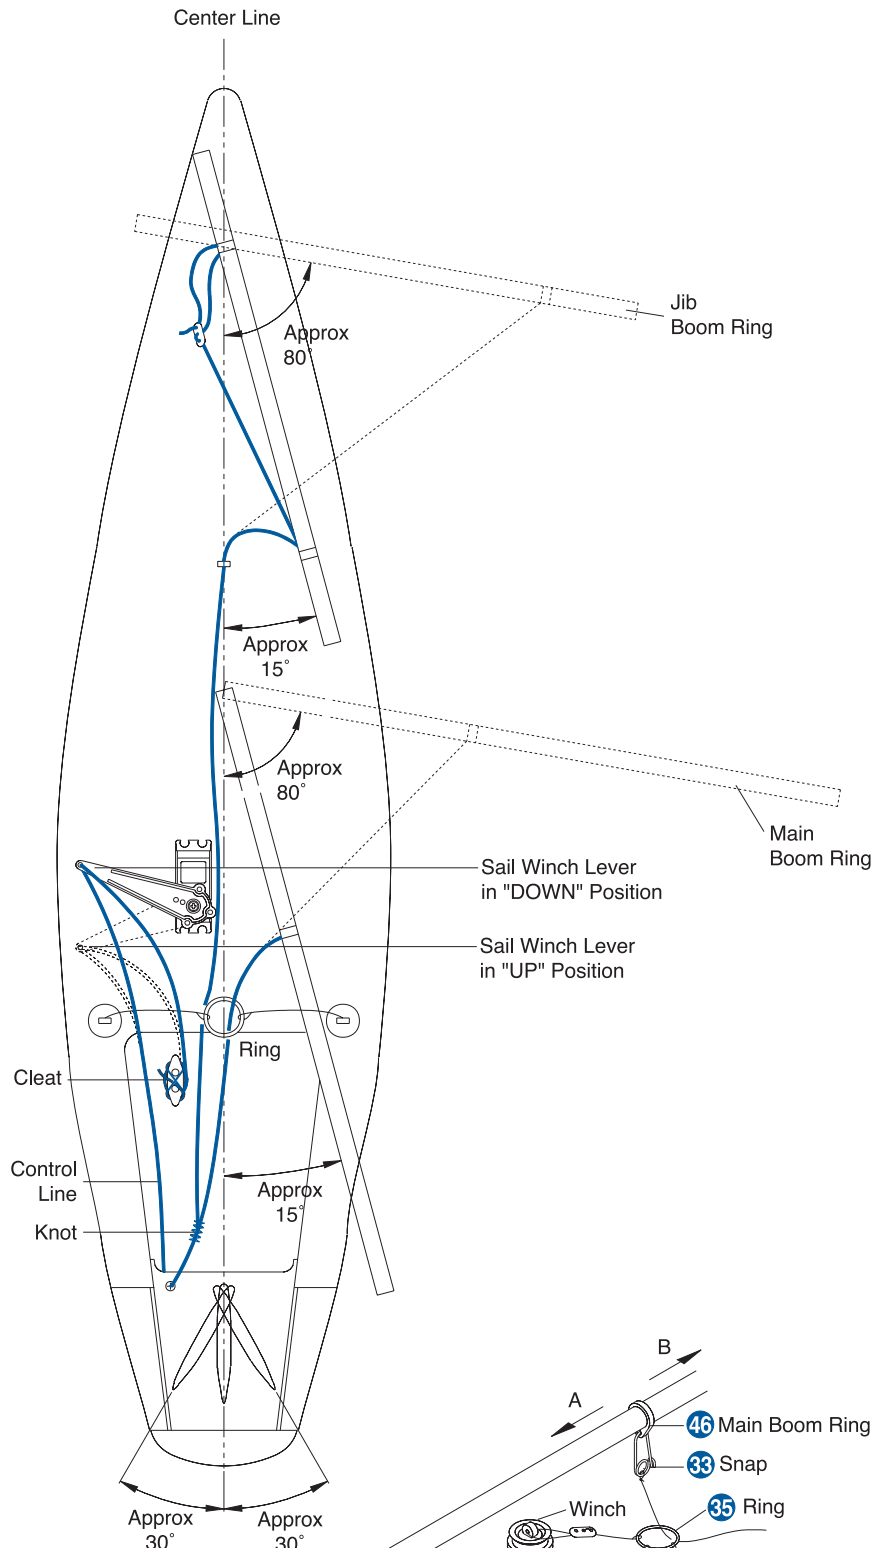

Fig. 35
- When the sail winch transmitter control stick is in the full "down" position, the sail winch servo arm should be in the position shown in Fig. 35.